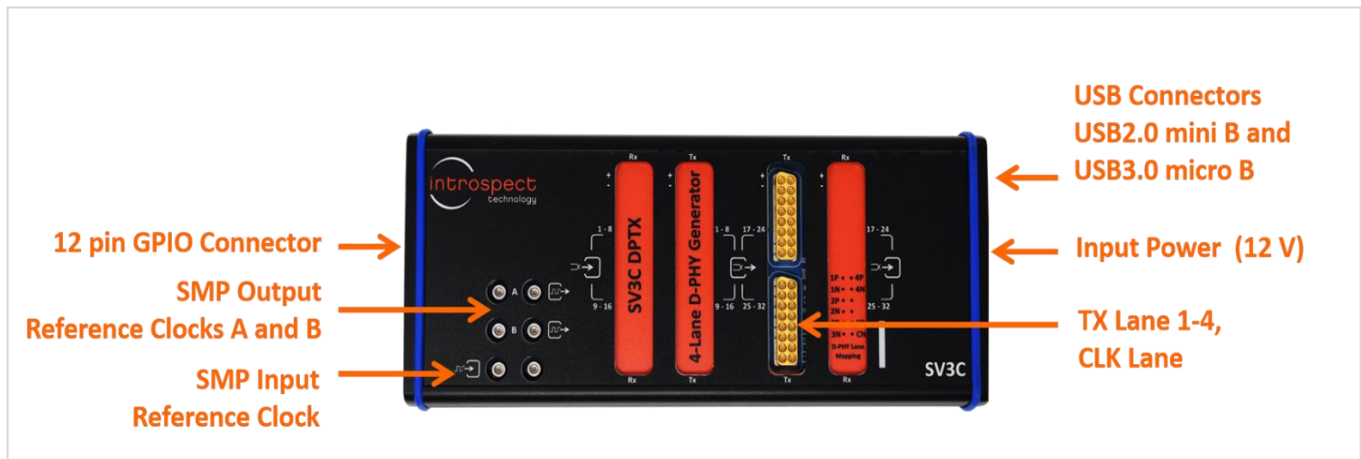

Figure 1: Illustration of the SV3C-DPTX MIPI D-PHY Generator system.
Figure 1 shows a diagram of the physical ports of the SV3C-DPTX.
The SV3C-DPTX has two high-speed MXP connectors. The lower MXP connector, as shown in Figure 1, provides the differential TX lanes 1-4 and the differential clock output signal. The pin mapping for the lower connector is provided in Table 2. No-connect (NC) pins should not be used.
The upper MXP connector shown in Figure 1 provides three replica signals which may be connected directly to an external measurement device for live monitoring. The pin mapping for the upper connector is provided in Table 3.
The 12 pin connector on the left side of the module, as shown in Figure 1, provides access to six GPIO pins and a ground pin. The connector pinout is given in Table 4, and the Molex connector part number is shown in the same table. All GPIO pins are 2.5 V LVCMOS compatible.